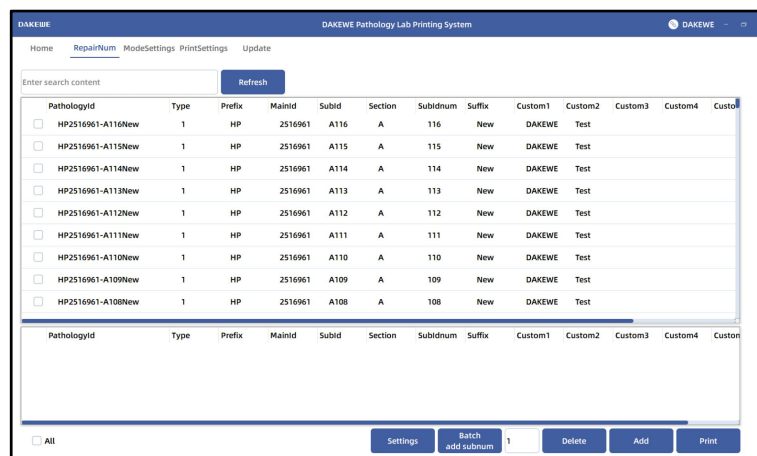

Figure 5-13 Computer Software - Reprint Interface
To improve work efficiency and adapt to different scenarios, you can reprint or print multiple copies by searching the printed data. In the menu bar of the Main interface, click the RepairNum to open the Reprint interface (Figure 5-13). The Reprint function can reduce the time for continuing to enter data and allow the printed data to be viewed.
(1) In the menu bar of the Main interface, click "RepairNum" to open the Reprint interface (Figure 5-13).
(2) Enter the printed data in the search input box.
(3) Select the data to be reprinted in the print jobs list, such as 2022-12345.
(4) Click the "Add" button to add repeat data.
(5) Enter the value in the input box after "Batch add subnum", and then click the "Batch add subnum" button to add data in batches according to the order of the sub IDs;